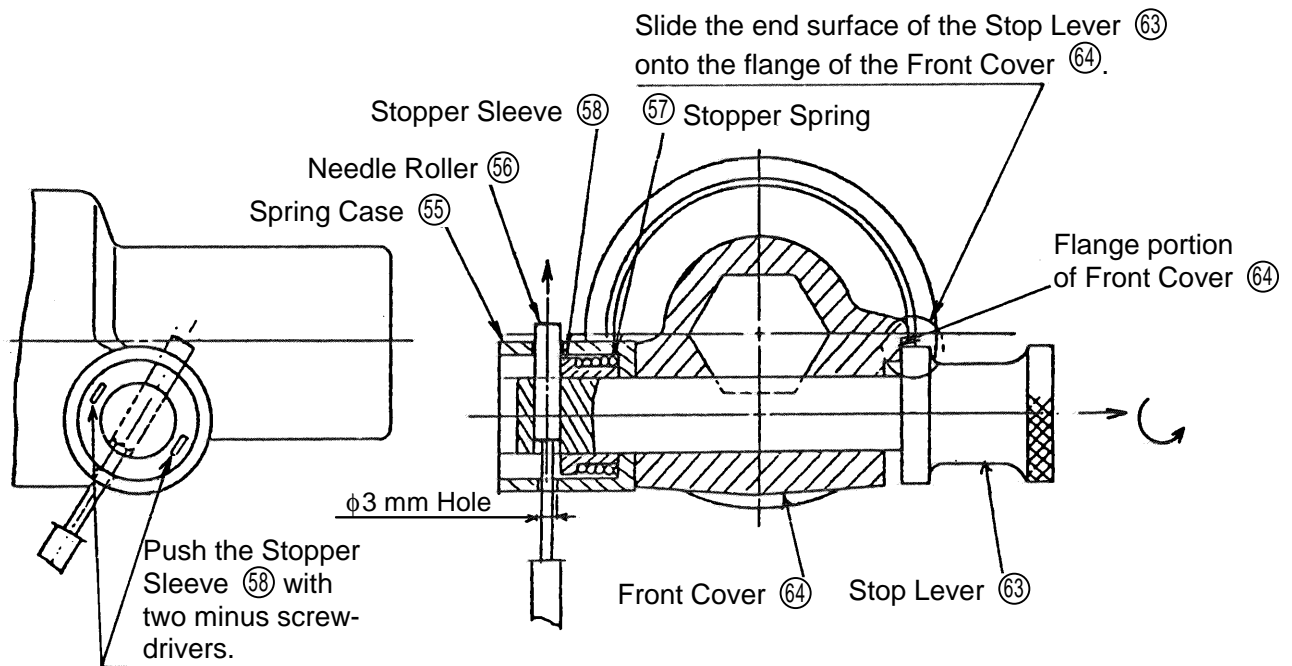
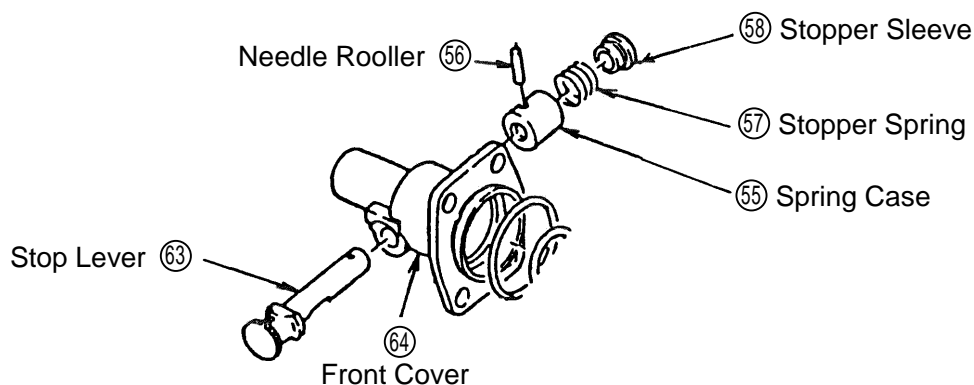

Fig. 5
Fig. 7
Disassembly procedures are illustrated in Fig. 5. Pull the Stop Lever (63) outward in the direction indicated by the arrow, and turn it slightly so that its end surface comes to rest on the flange portion of the Front Cover (64). Next, turn the Spring Case (55) so that the hole of the Spring Case (55) is aligned with the Needle Roller (56). Push in the Stopper Sleeve (58) with two minus screwdrivers to compress the Stopper Spring (57), and insert a steel rod (less than 0.118" [3 mm] in diameter) into the 0.118" (3 mm) diameter hole of the Spring Case (55) to push out the Needle Roller (56). The Stop Lever (63), Stopper Sleeve (58) and Stopper Spring (57) can then be taken off.
Coat grease (Molub Alloy #777-1, Code No. 971042, is recommended) on the shaft portion of the Stop Lever (63), and reassemble it by referring to Fig. 7 above and Fig. 5 in paragraph 1-1-1.